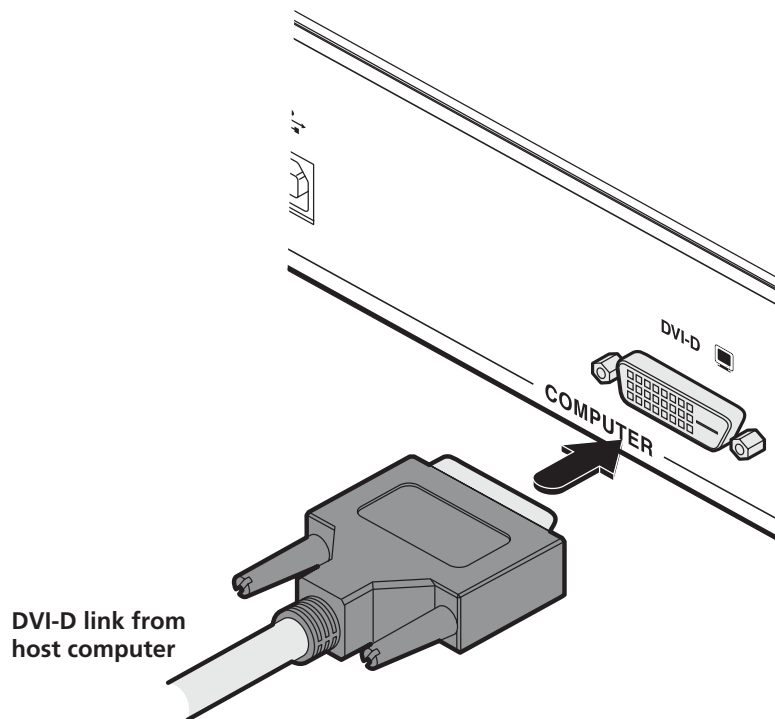

Figure 3-1. Connect a standard DVI-D link cable to the DVI-D socket.
- 2 Connect a standard DVI-D link cable to the DVI-D socket on the Local unit rear panel. See Figure 3-1.